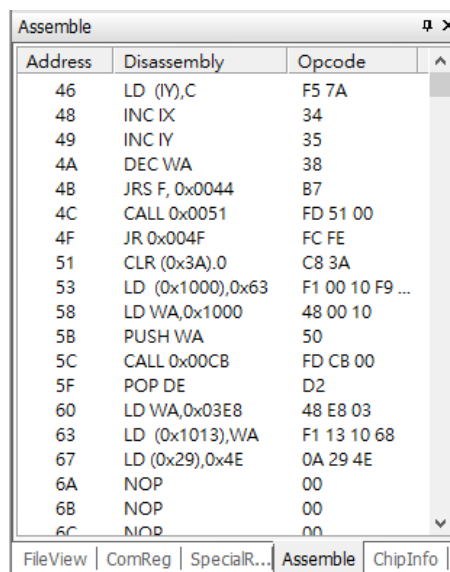

Figure 4.6 Assembly window
**Assembly window** – The Assembly window displays the reverse generation of assembly code from machine code. This window provides the function of directly modifying assembly instructions or machine instructions, see Figure 4.6.